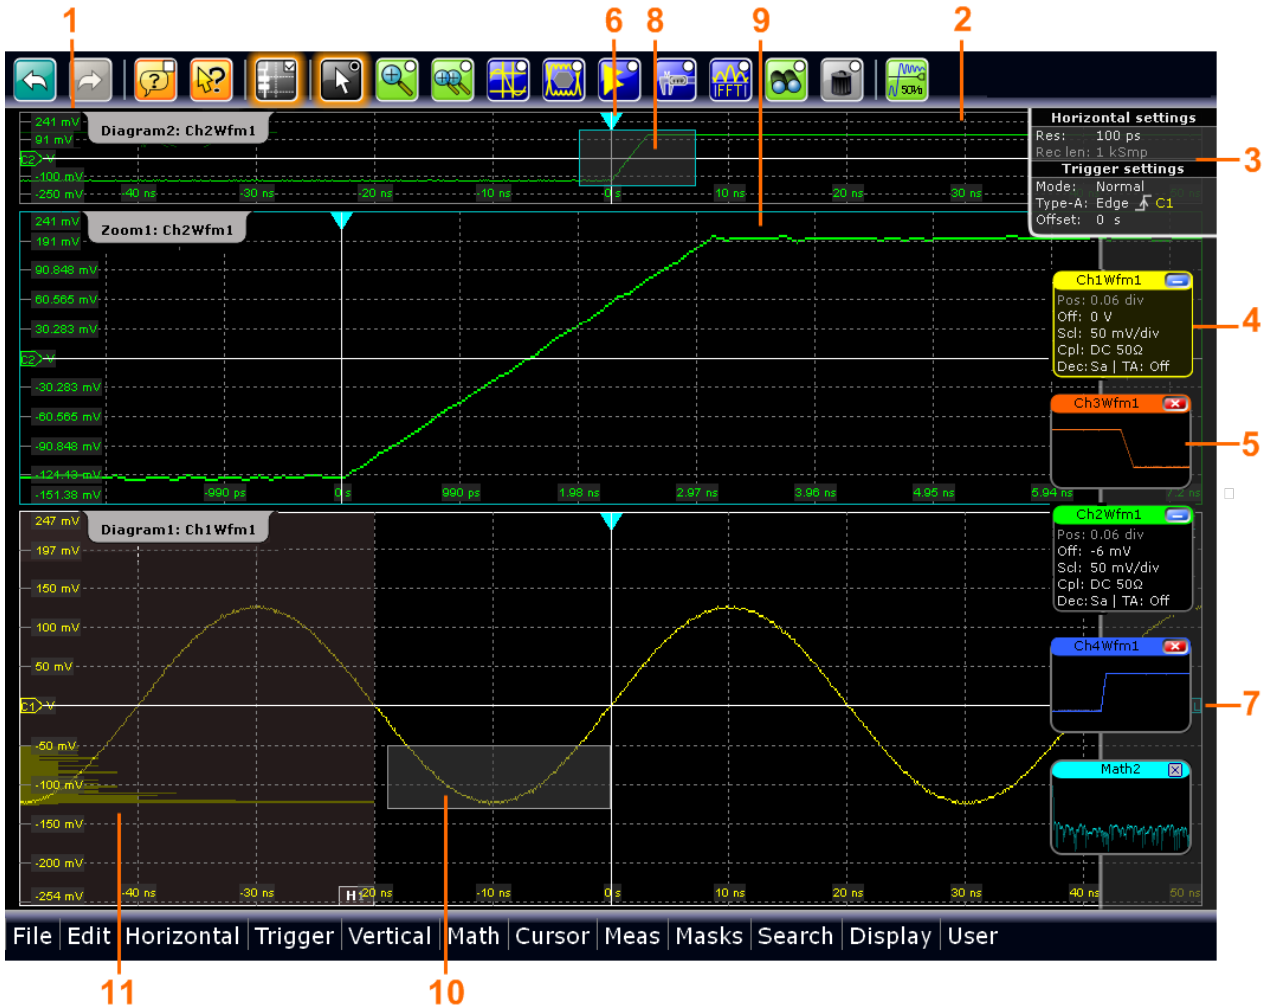

Fig. 5-1: Display information
The touch screen display of the instrument shows not only waveforms, but also information, measurement results and everything to control the instrument. All waveform-related display elements are shown in figure 5-1. An overview of control elements - like dialog box, toolbar - is given in chapter 3.1.1, "Touch Screen Display", on page 17.
In figure 5-1, the signal icons Ch1Wfm1 and Ch2Wfm1 show the signal label, and the waveforms are displayed in diagrams. All other waveforms are minimized and shown in the signal view.
- **Selected:** One of the active waveforms that has the focus. All waveform-specific settings are applied to the selected waveform. The vertical POSITION and SCALE knobs and the SIGNAL OFF key are illuminated with the color of the selected waveform. If the selected waveform is displayed in a diagram with other waveforms, it appears "on top" in the diagram, and the grid labels have the color of the selected waveform. In figure 5-1, "Ch1Wfm1" is the selected waveform: The frames of the diagram and the signal icon are highlighted.